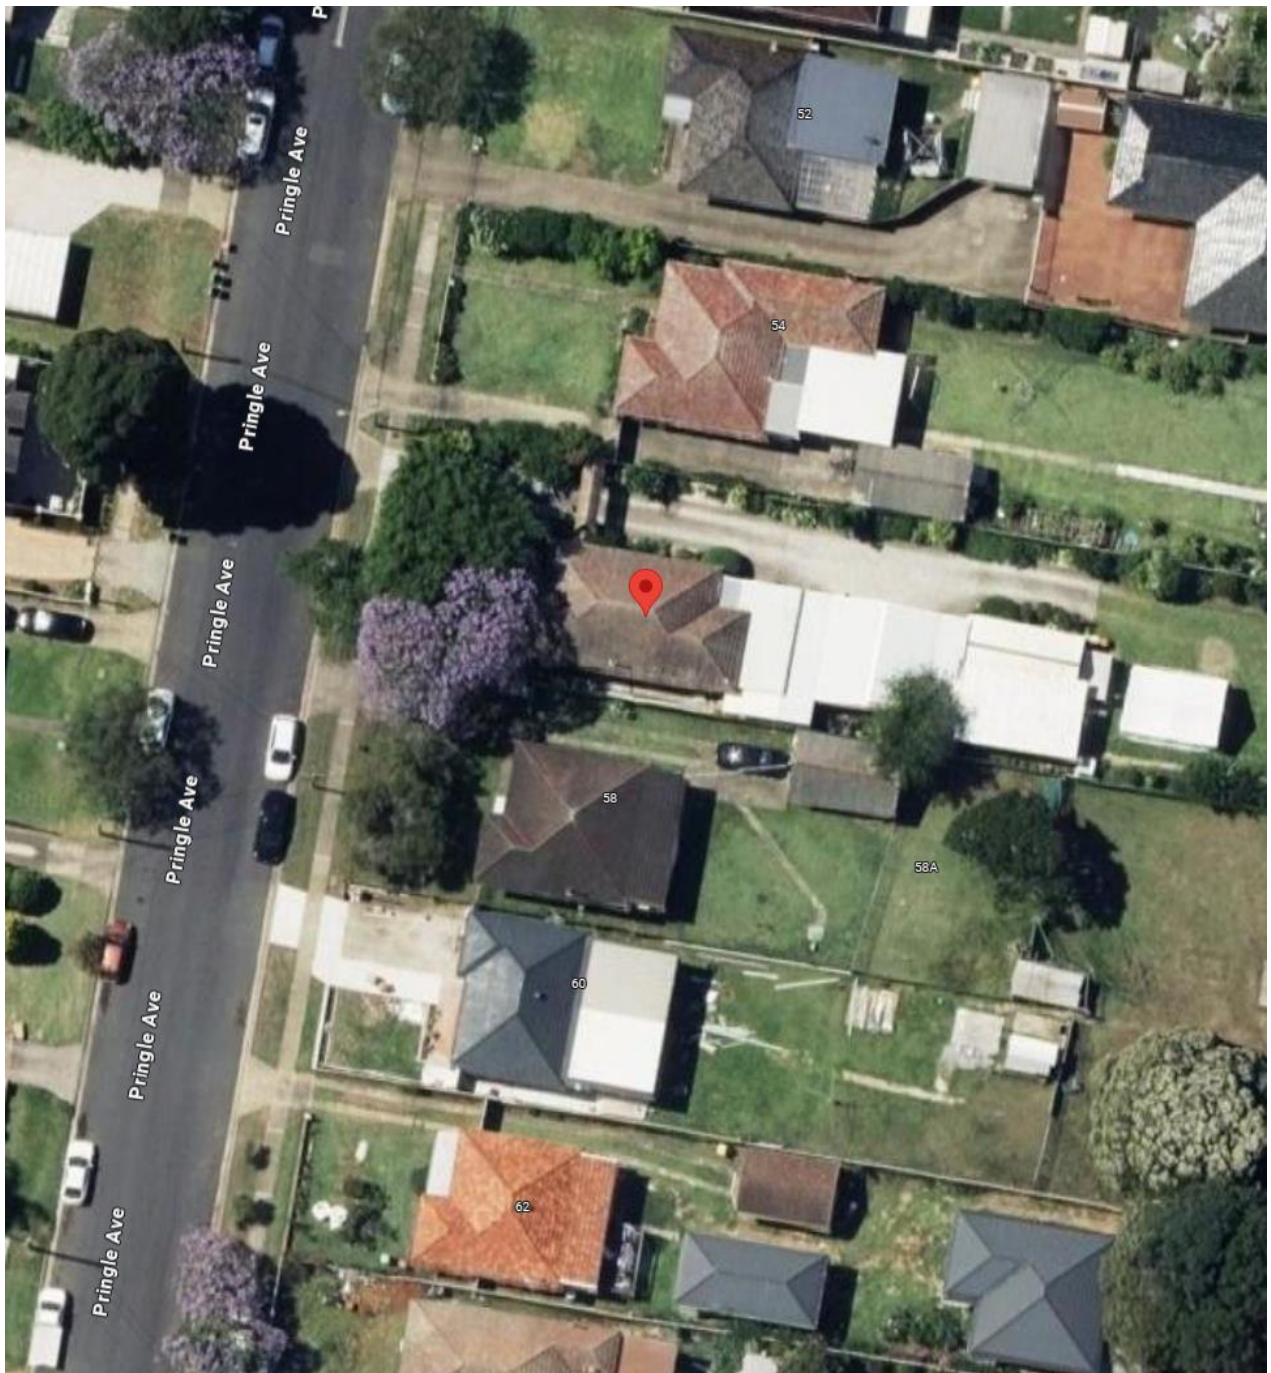

Figure 2: Subject Site Aerial View
**Figure 1** provides an overview of the area, and its surrounding land uses whilst **Figure 2** provides an aerial view of the immediate area surround the subject site.